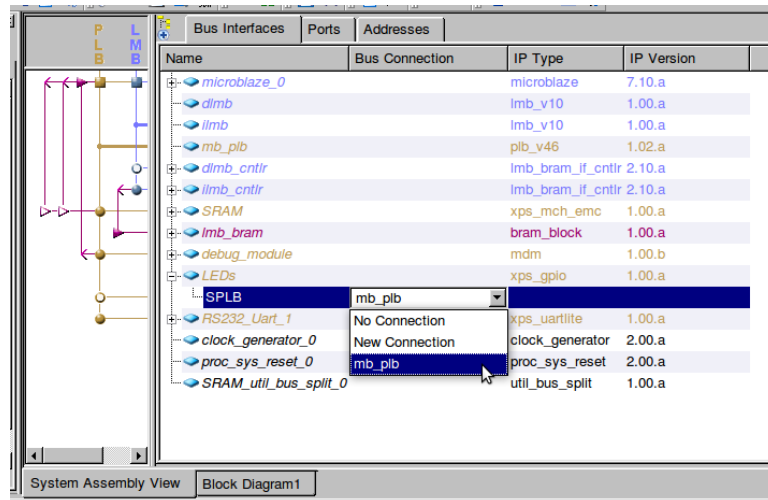

Figure 9: Connect to PLB
- (d) In the 'Bus Interfaces' tab, expand 'LEDs' and set the 'SPLB' bus connection to 'mb\_plb' (Figure 9). This will connect the GPIO module to the PLB.